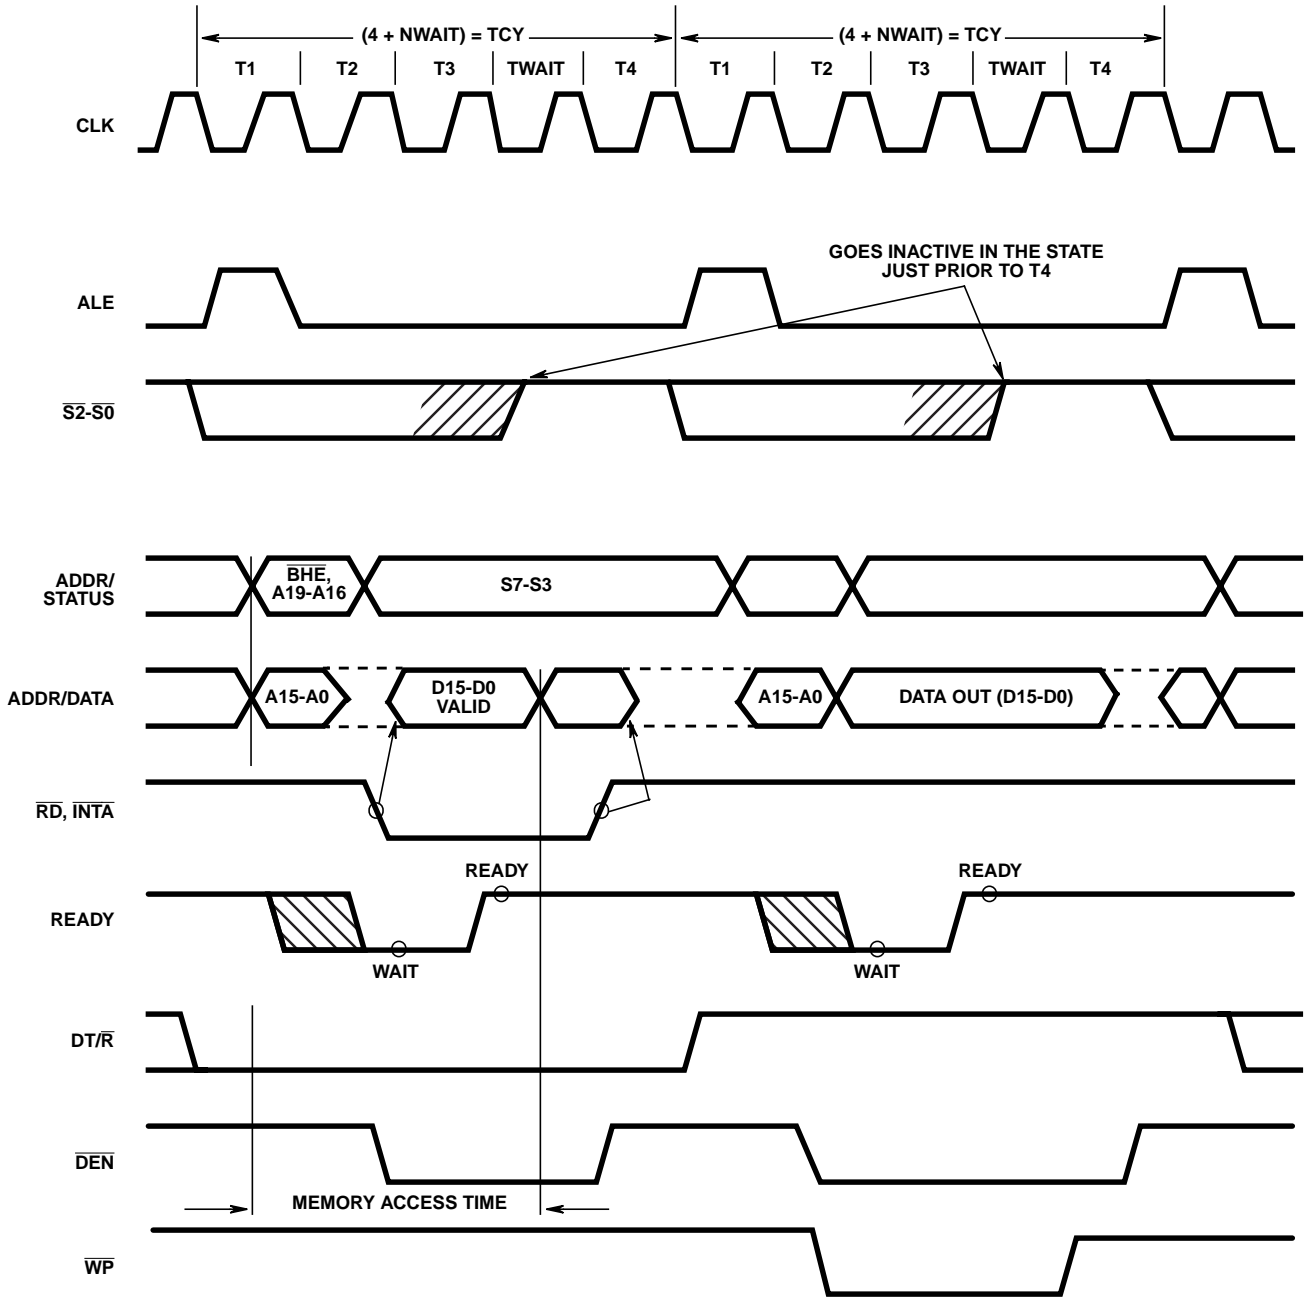
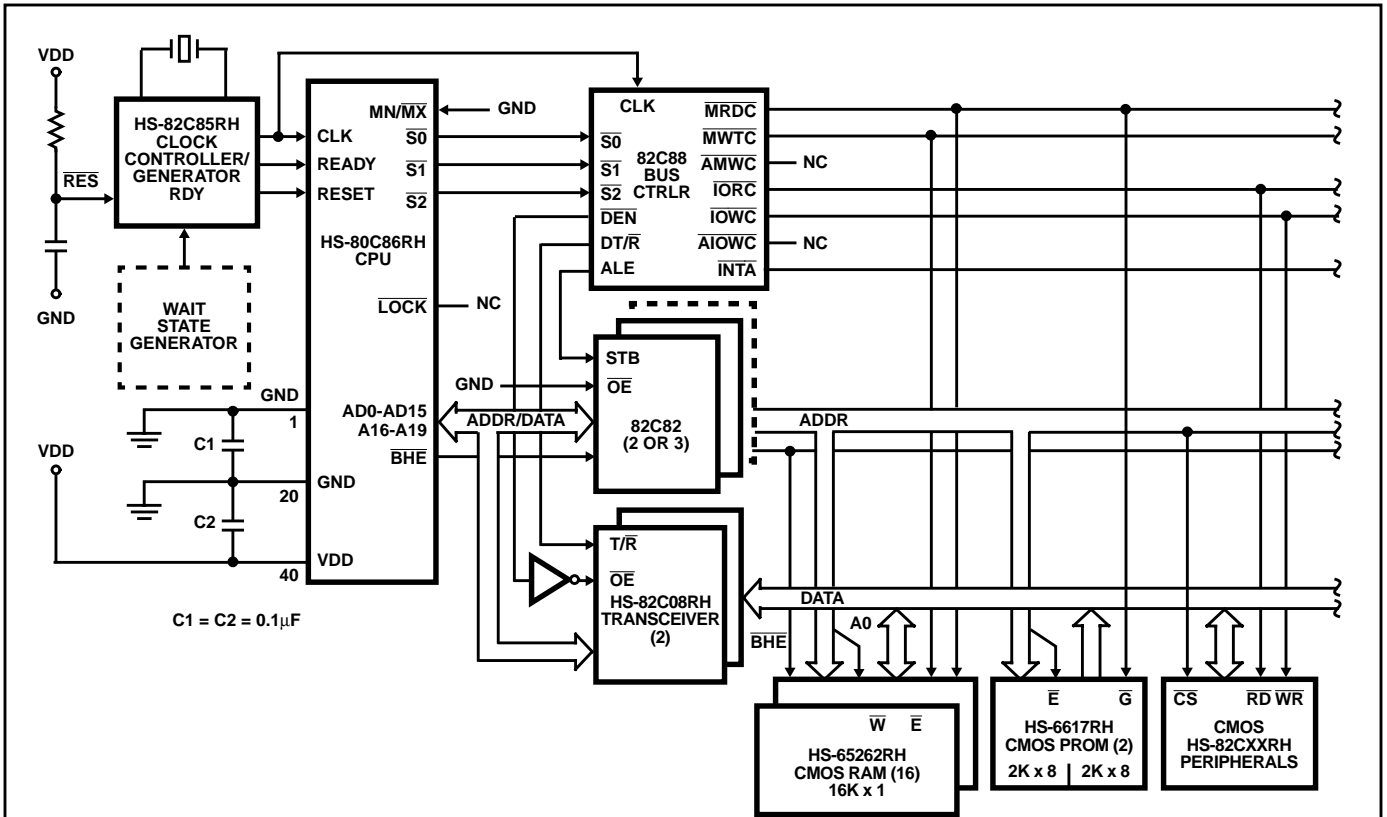

FIGURE 3. BASIC SYSTEM TIMING
FIGURE 6A. MAXIMUM MODE HS-80C86RH TYPICAL CONFIGURATION
Each processor bus cycle consists of at least four CLK cycles. These are referred to as T1, T2, T3 and T4 (see Figure 3). The address is emitted from the processor during T1 and data transfer occurs on the bus during T3 and T4. T2 is used primarily for changing the direction of the bus during read operations. In the event that a "NOT READY" indication is given by the addressed device, "Wait" states (TW) are inserted between T3 and T4. Each inserted wait state is the same duration as a CLK cycle. Idle periods occur between HS-80C86RH driven bus cycles whenever the processor performs internal processing.
Typical system configurations for the processor operating in minimum mode and in maximum mode are shown in Figures 6A and 6B, respectively. In minimum mode, the MN/MX pin is strapped to VDD and the processor emits bus control signals (e.g. $\overline{\text{RD}}$, $\overline{\text{WR}}$, etc.) directly. In maximum mode, the MN/MX pin is strapped to GND and the processor emits coded status information which the 82C88 bus controller used to generate MULTIBUS™ compatible bus control signals. Figure 3 shows the signal timing relationships.